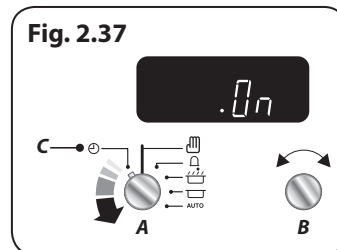

Fig. 2.37
2. Turn the **Timer (A)** knob to the **Clock (C)** setting and hold for approx 8 seconds. The display will show **'ON'** (**Fig. 2.37**).